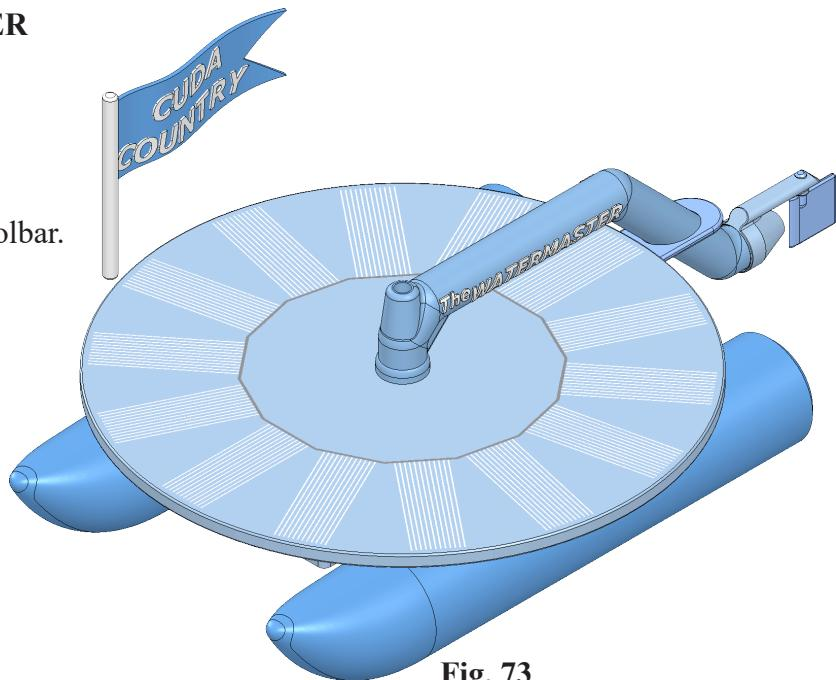

Fig. 73
Step 4. Click to place Pennant as positioned in **Fig. 73**.